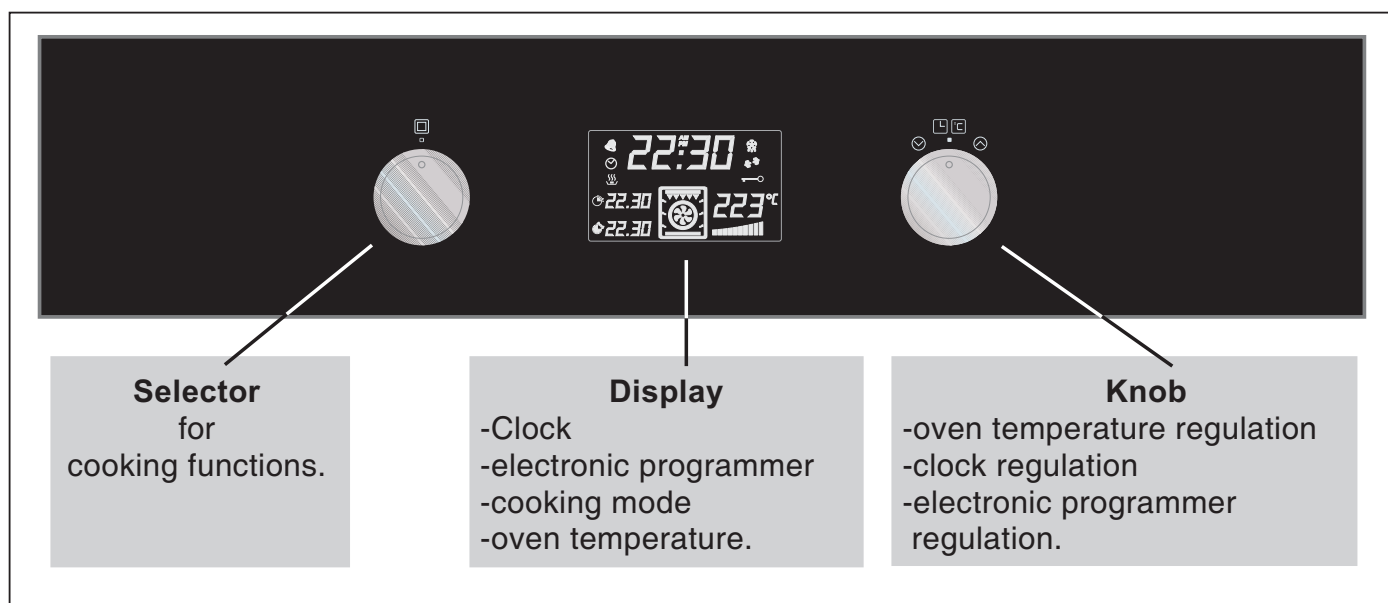
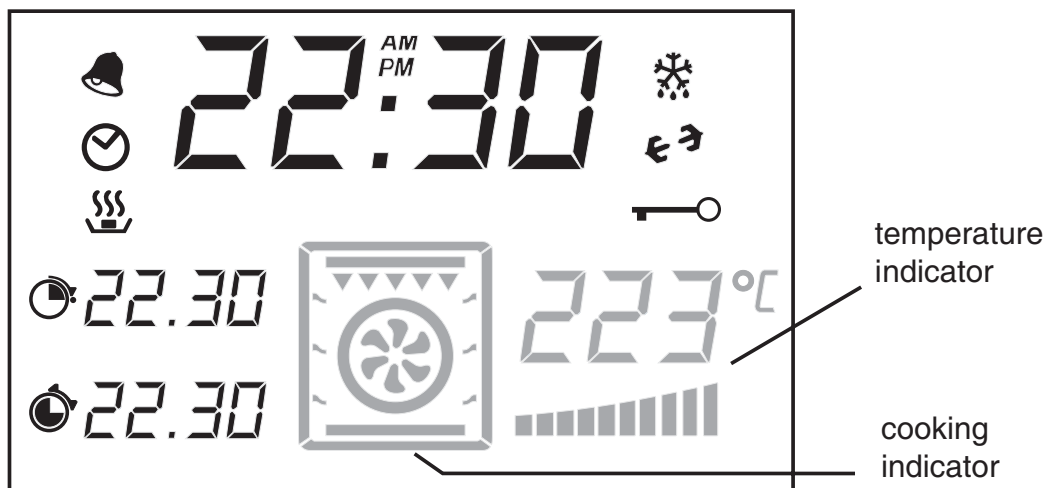
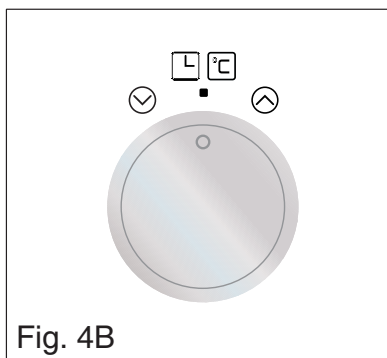

Fig. 4
Fig. 4A
Fig. 4B
The oven selector knob (fig.4) can be used to select the following functions. Note: the functions selected and the oven temperature will appear on the display (see fig. 4A).
When the oven is first connected to the power supply, the display shows 00.00 and the led indicator “” flashes. To set the desired time, turn the knob (fig. 4B) clockwise to the symbol “” or anticlockwise to the symbol “” depending on whether you wish to increase or decrease the time. To confirm the time set, press the knob or wait for 5 seconds.
**Note:** if you wish to set the time of day later, press the selector knob (fig. 4B) until the time indicator “” flashes and then proceed as described above.
Press the selector (fig.4B) until the minute minder indicator “” flashes, then set the desired cooking time by turning the knob clockwise to the symbol “” or anticlockwise to the symbol “” depending on whether you wish to increase or decrease the time. To confirm the time set, press the knob or wait for 5 seconds. The display will show the set time and the indicator “” will remain lit. At the end of the set time, an acoustic signal sounds and the indicator “” flashes. Press the selector knob (fig.4B) to stop the acoustic signal.
**Important:** cooking time can only be set if the cooking function selector knob (fig.4) is turned to a cooking position!
**Setting:** press the selector knob (fig.4B) until the symbol “” flashes. Set the desired cooking time by turning the knob clockwise to the symbol “” or anticlockwise to the symbol “” depending on whether you wish to increase or decrease the time. To confirm the set time, press the selector knob (fig.4B) or wait for five seconds. The display will show the symbol “” with the set time and the symbol “” with the time at which the oven will switch off.
Start of cooking is indicated by the symbol “”, which lights up on the display. At the end of the set time the oven switches off automatically, an acoustic signal sounds and the indicator “” flashes. Press the selector knob (fig.4B) to stop the acoustic signal and turn the function selector (fig.4) to “zero” to exit cooking time setting.
**Important:** cooking end time can only be set if the cooking function selector knob (fig.4) is turned to a cooking position!
**Setting:** press the selector knob (fig.4B) until the symbol “” flashes. Set the cooking end time by turning the knob clockwise to the symbol “” or anticlockwise to the symbol “” depending on whether you wish to increase or decrease the time.
To confirm the set time, press the selector knob (fig.4B) or wait for five seconds. The display will show the symbol “” with the set cooking end time and the symbol “” with the cooking time. Start of cooking is indicated by the symbol “”, which lights up on the display. At the end of the set time the oven switches off automatically, an acoustic signal sounds and the indicator “” flashes. Press the selector knob (fig.4B) to stop the acoustic signal and turn the function selector (fig.4) to “zero” to exit cooking end time setting.
Press the selector (fig.4B) until the symbol “” flashes.
Set the desired cooking time as described at “**COOKING TIME**”. Press the selector knob (fig.4B) until the symbol “” flashes.
Start of cooking is indicated by the symbol “”, which lights up on the display. At the end of the set time the oven switches off automatically, an acoustic signal sounds and the indicator “” flashes. Press the selector knob (fig.4B) to stop the acoustic signal and turn the function selector (fig.4) to “zero” to exit cooking time and cooking end time setting.
Programmes can be cancelled at any time by re-selecting the previously selected functions and turning the selector knob (fig.4B) anticlockwise to the symbol zero “”, resetting the time to zero.
If you activate the key lock, the timer can no longer be used to set the time or programmes. Neither the time of day nor an elapsing minute minder nor an active cooking programme can be modified. However, the set functions will operate accurately. Proceed as follows to activate the key lock: Press the selector knob (fig.4B) until the symbol “” flashes.
To deactivate the key lock, turn the selector knob (fig.4B) anticlockwise to the symbol “” for around 3 seconds.
The brightness of the display can be adjusted between 4 different brightness settings by turning the selector knob (fig.4B) anticlockwise to the symbol “” or clockwise to the symbol “”.
**Note:** adjustment can be made only when the function selector (fig.4) is set to “zero”.